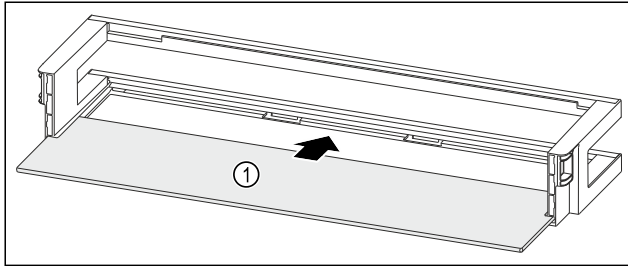

Fig. 117 Door rack with shelf
- ▶ Push the shelf Fig. 117 (1) into the side recesses.